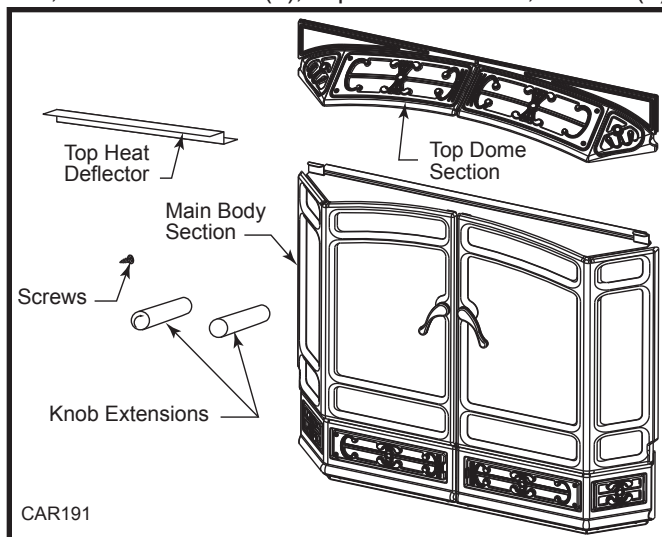

Fig. 1 Carton contents.
Compare contents of carton in Figure 1 with actual parts received. If any parts are missing, or damaged, contact your local dealer before starting installation.
Contents: (Fig. 1) Top Dome Section, Main Body Section, knob extensions (2), Top Heat Deflector, Screws (4)